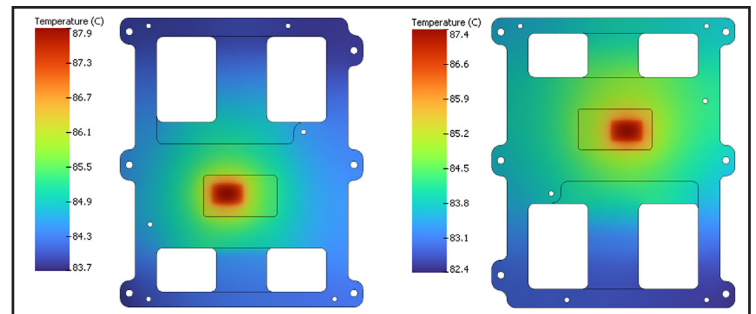

Figure 6. Surface Temperature Contours of the System's CPUs
- Directed more airflow toward CPUs (Figure 6)